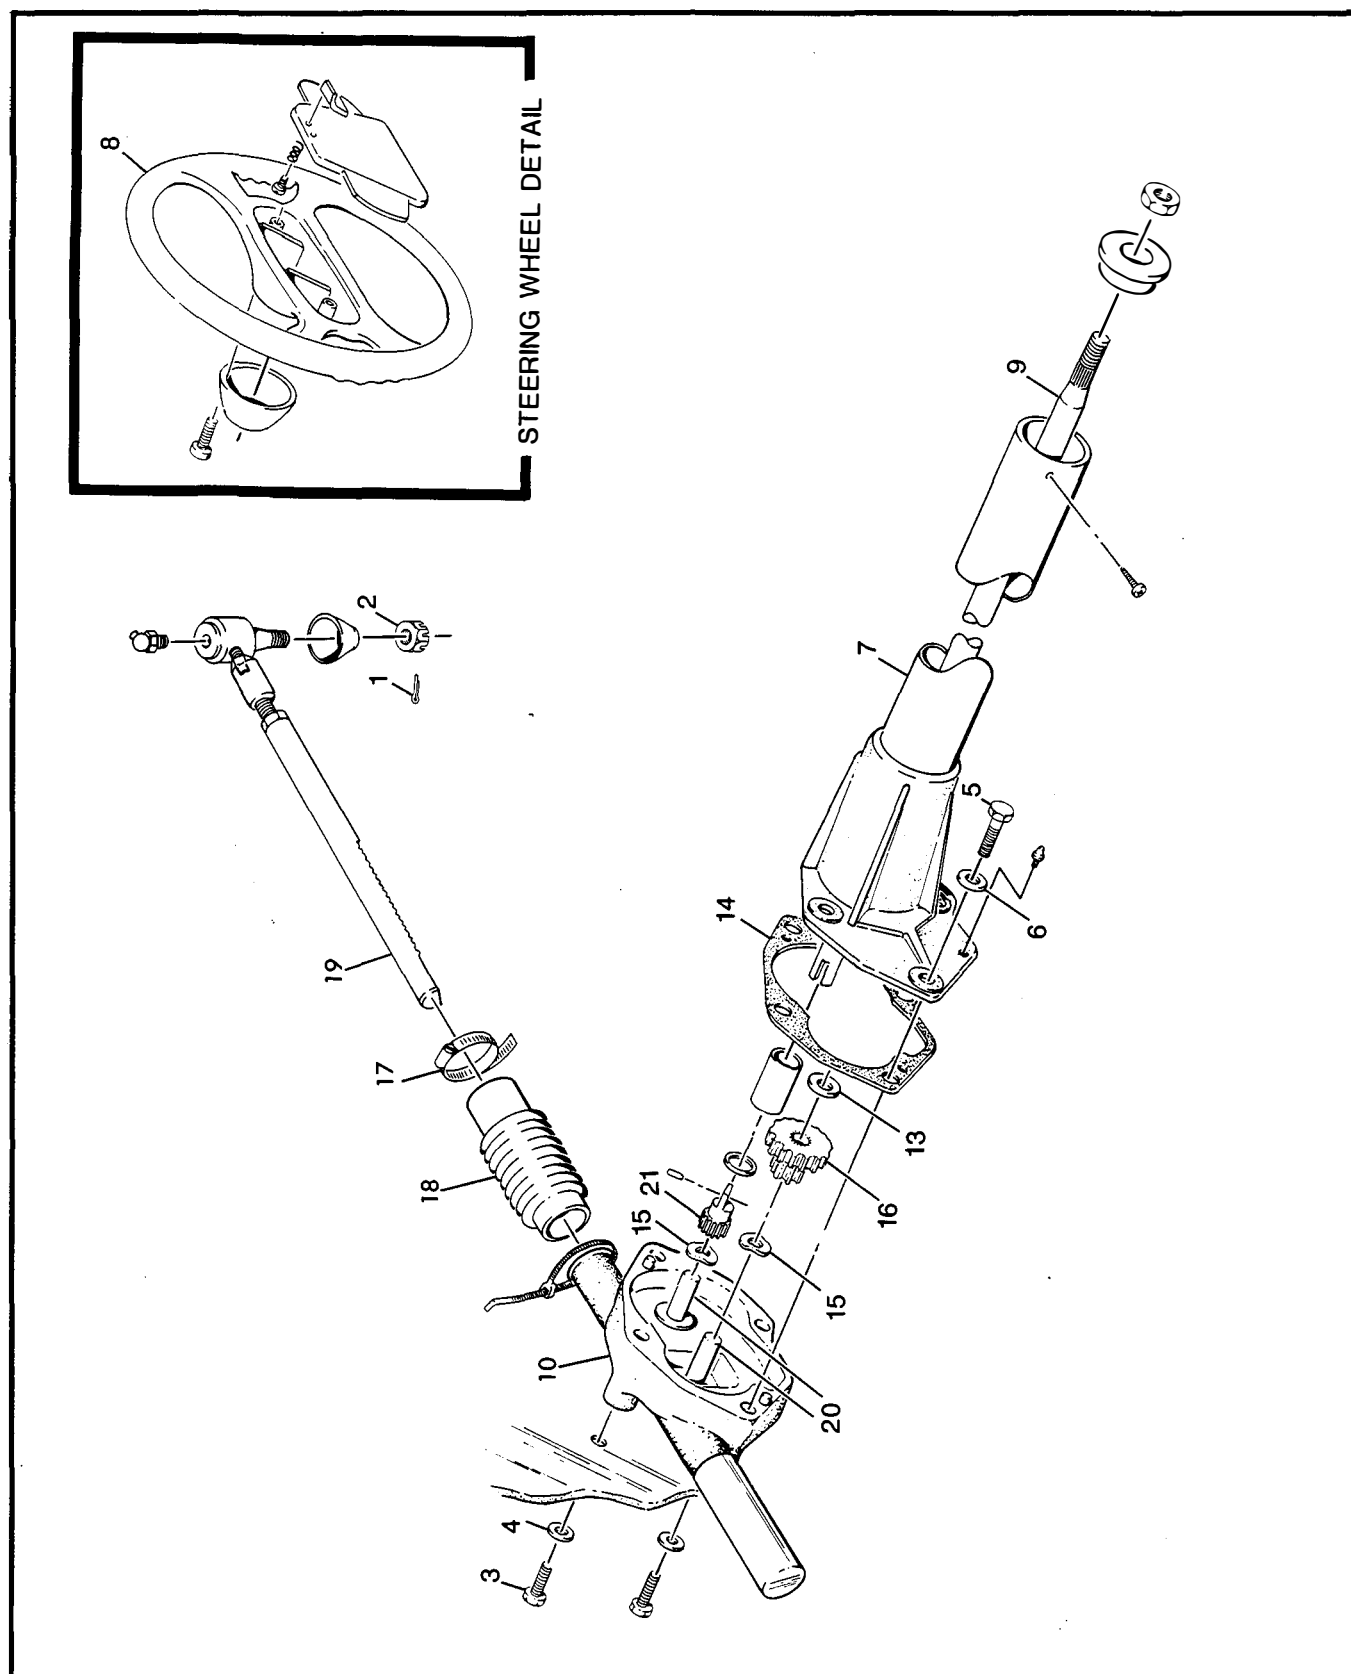

FIG. D-2 STEERING
(FIG. D-2)
Remove cotter pin (1) from slotted nut (2) and back nut off until it protects ball joint stud threads. Using a ball joint pulling tool as a lever, apply pressure to ball joint and tap nut with a hammer to release ball stud. Remove nut and lift stud from arm. Remove three bolts (3) and lock washers (4) securing steering box to floorboard and lift assembly out of vehicle. (FIG. D-2)
Reinstall in the reverse order of disassembly. Tighten ball joint stud slotted nut (2) to 40 ft. lbs. torque. Insert new cotter pin. (FIG. D-2)
STEERING SHAFT REMOVAL (FIG. D-2)
GEAR AND RACK REMOVAL (FIG. D-2)